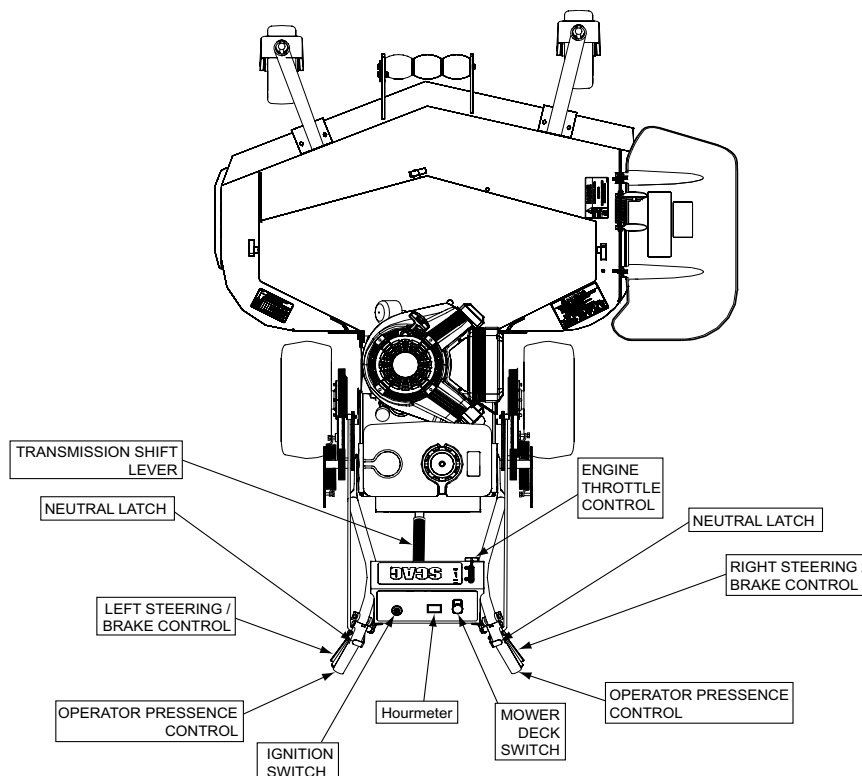

Figure 4-1. Controls and Instruments
- 1. Ignition Switch (Figure 4-1).** The ignition switch is used to start the engine. Turn the key to the on position before pulling the recoil starter.
- 2. Mower Deck Switch (Figure 4-1).** Use to engage and disengage the mower drive system. Pulling up on the switch will engage the deck drive. Pushing down on the switch will disengage the deck drive.
- 3. Engine Choke Control (Figure 4-1).** Use to start a cold engine.
- 4. Engine Throttle Control (Figure 4-1).** Use to control the engine speed. Pushing the lever forward increases engine speed. Pulling the lever back decreases engine speed. Full back position is the IDLE position. Full forward is the cutting position.
- 5. Left Steering / Brake Control (Figure 4-1).** Use to control the mower's left wheel when traveling forward or reverse. Pull upward to apply brake.
- 6. Right Steering / Brake Control (Figure 4-1).** Use to control the mower's right wheel when traveling forward or reverse. Pull upward to apply brake.
- 7. Hourmeter (Figure 4-1).** Indicates the number of hours the engine has operated. It operates whenever the engine is running. Has preset maintenance reminders for engines and hydraulic system oil changes. Will start flashing scheduled maintenance 2 hours before preset time and continue flashing until 2 hours after. Automatically resets.
8. **Transmission Shift Lever (Figure 4-1).** Use to select the forward speed or selecting reverse. The machine must be at a complete stop before shifting between gears or shifting between forward and reverse.
9. **Neutral Latch (Figure 4-1).** Use to secure the belt drive system in neutral. Apply neutral latches when parking the machine.
10. **Operator Presence Control (Figure 4-1).**